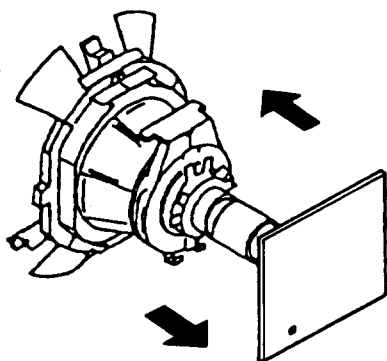

Fig. 3-1
(See Figures 3-1 through 3-3.)
4. Move the deflection yoke forward and adjust so that entire screen is green. (See Figure 3-1.)